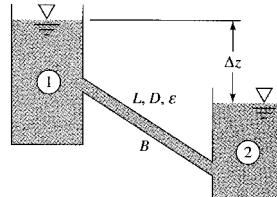

Fig. P6.55
**6.58** In Fig. P6.55 assume that the pipe is cast iron with  $L = 550 \text{ m}$ ,  $d = 7 \text{ cm}$ , and  $\Delta z = 100 \text{ m}$ . If an 80 percent efficient pump is placed at point  $B$ , what input power is required to deliver  $160 \text{ m}^3/\text{h}$  of water upward from reservoir 2 to 1?